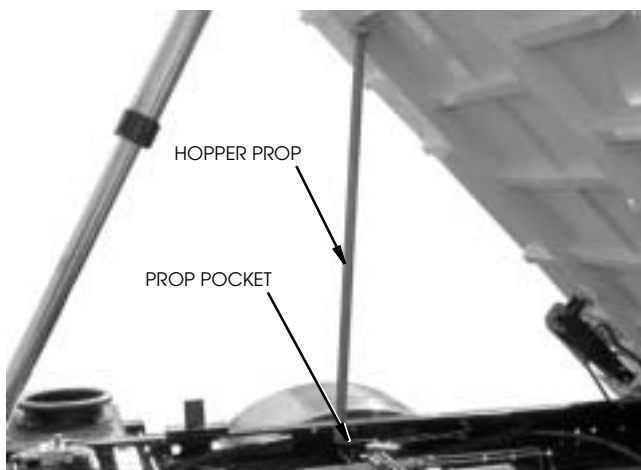

Fig. 5 - Correct Use of the Hopper Prop
3. When the hopper is fully raised, deploy the hopper prop by locating the free-end in its pocket (Refer to Fig. 5).